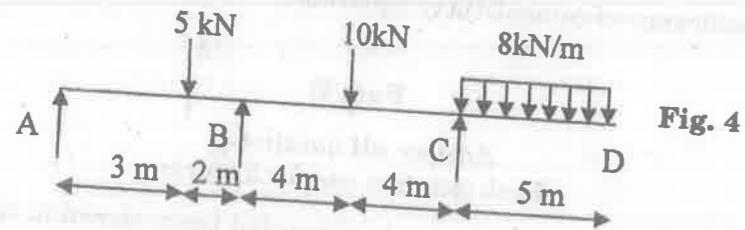

Fig. 4
12. Determine the Shear force and B.M of the given continuous beam shown in the fig. 4. Use theorem of three moment.